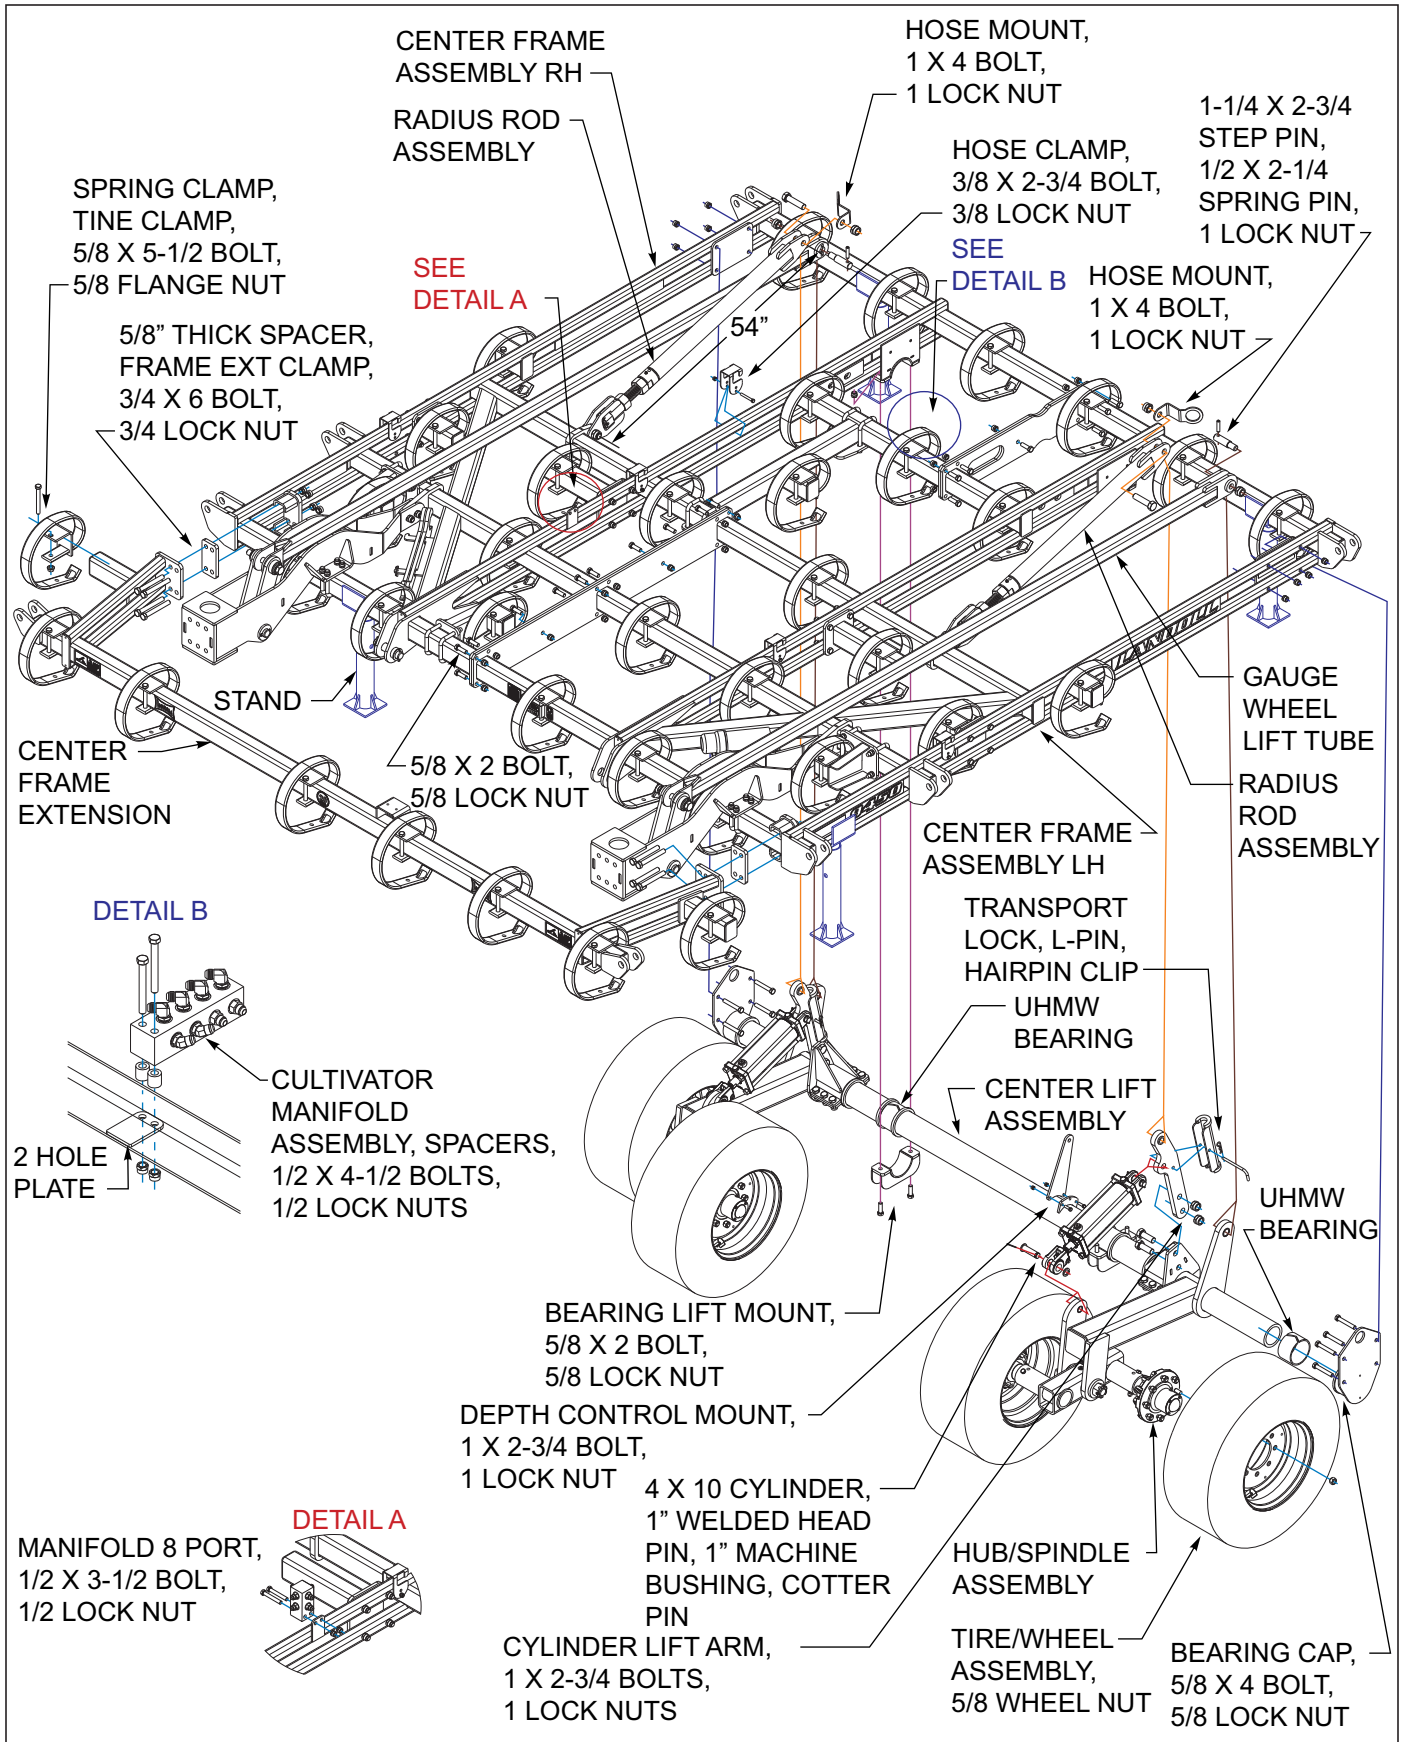

Figure 3-1: Center Frame Assembly
1. Bolt the two center frame halves together using 5/8 x 2 bolts and lock nuts *See Figure 3-1*.
16. Install the 8 port manifold to 2 hole plate toward front of center frame assembly RH with 1/2 x 3-1/2 bolts and 1/2 lock nuts *See Figure 3-1*.
17. Install the lift/fold manifold assembly on 2 hole plate on rear of center frame tube using 1/2 x 4-1/2 bolts, spacers and 1/2 lock nuts *See Figure 3-1*.
2 hose mounts used on center frame See Figure 3-1 for placement and orientation.